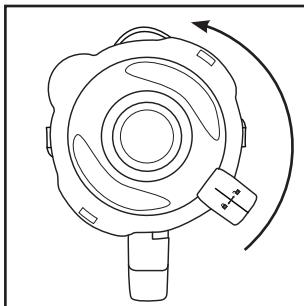

Fig. 1
- 1) Rotate the blender ③ anticlockwise until the arrow ▼ under the blender ③ handle is located above the  position. Remove the blender ③ from the motor block ⑥ in a vertical, upward motion.
- 2) Remove the lid ② by rotating it anticlockwise towards position  (see Fig 1) until you can pull it upwards.
- 3) Fill the blender ③ to at least to the lowest line of the scale ⑧ and at most to the MAX mark. For optimum results, we recommend the following maximum filling quantities: